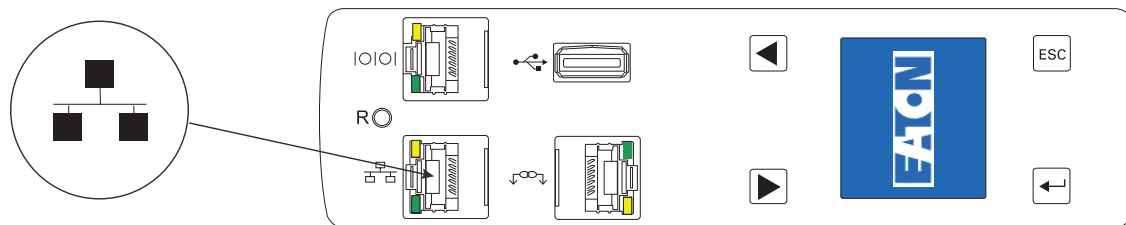

Figure 28. Connecting the ePDU to a LAN
2. Connect one end of the cable to the Ethernet connector on the ePDU (see Figure 28). Connect the other end of the cable to the Ethernet connector on the router (or other LAN device).